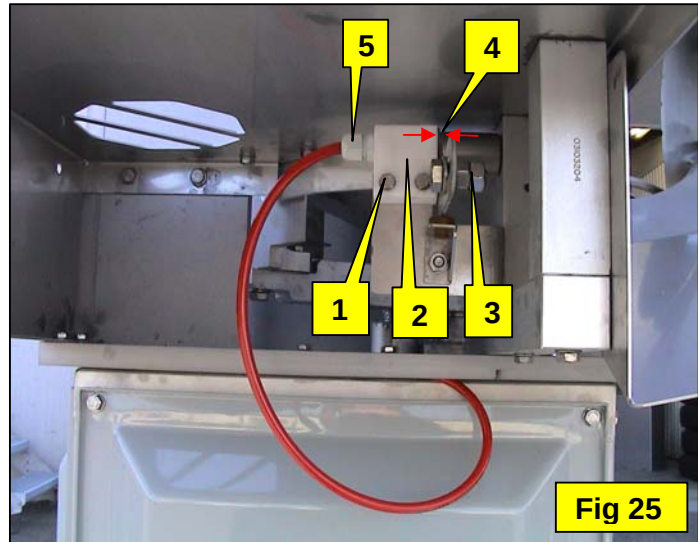

Fig 25
Loosen the gland nut (fig.25 item 5) push the cable sheath towards the holder, whilst maintaining pressure re-tighten the gland nut.
Loosen, do not remove, the 2 hexagon head bolts (fig. 25 item 1).
Adjust the clearance of the proximity switch holder (fig.25 item 2) to 1mm (0.040") (fig.25 item 4). Re-tighten the 2 hexagon head bolts (fig.25 item 1).
The trigger weight can be adjusted by loosening the hexagon head nut and bolt (fig.25 item 3) and moving its position along the slot.